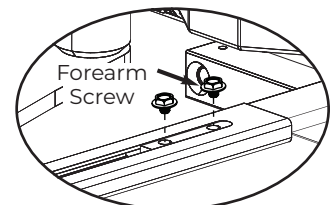

Figure 25
6. While holding arm in position, secure forearm to adjusting tube with forearm screw. (Figure 25)